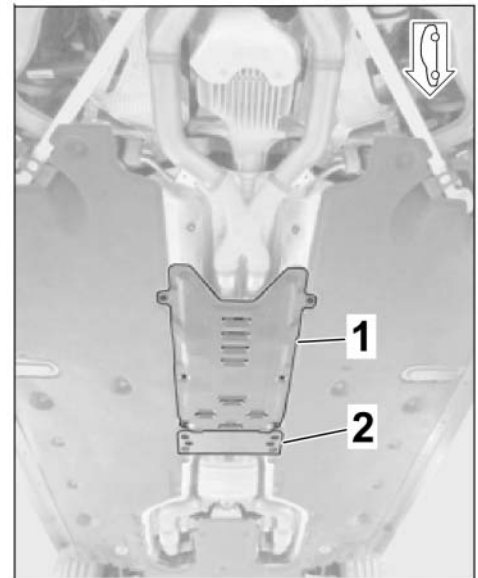

Figure 21
- 3.1.1 Remove tunnel cover on –center–underbody (⇒ *Figure 21 -1-*) and detach center underbody cover on the left/right side. ⇒ *Workshop Manual '519319 Removing and installing cover for central underbody cover'*
- 3.1.2 Remove tunnel strut (10 x hexagon-head bolts, M10 x 45 ⇒ *Figure 21 -2-*). ⇒ *Workshop Manual '260119 Removing and installing exhaust system'*